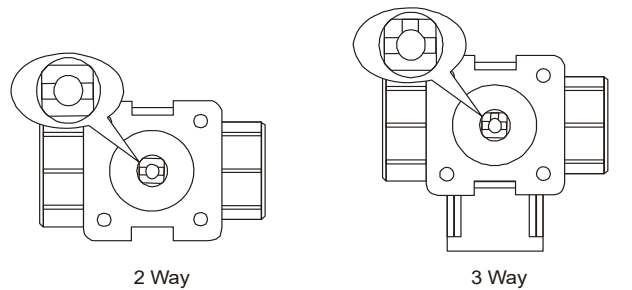

Figure 4: Positioning the valve stem
1. Turn the valve stem to the position outlined in Figure 4.